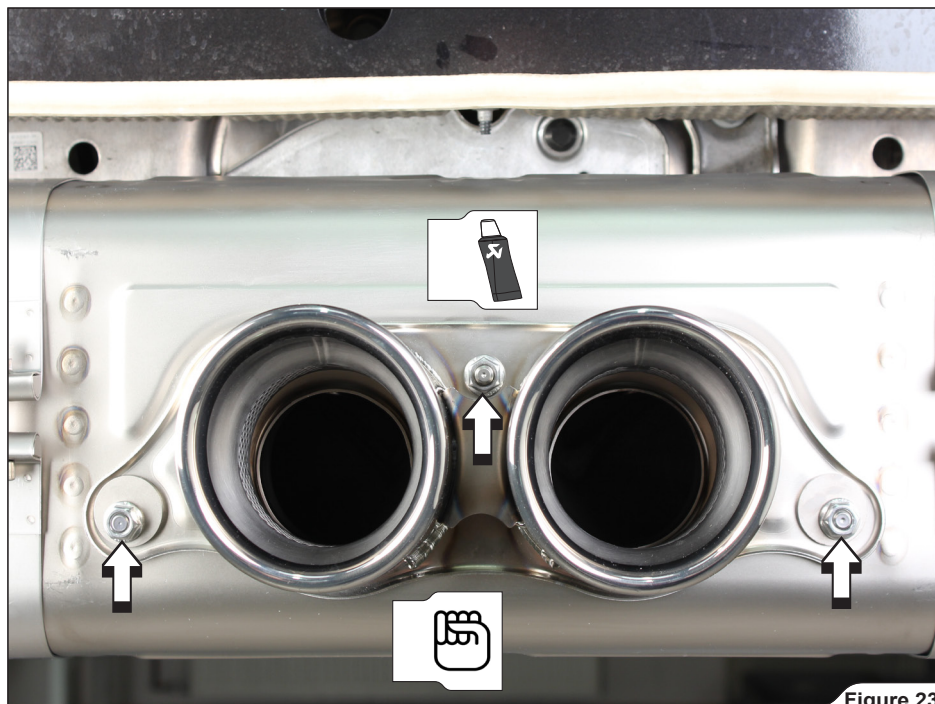

Figure 23
8. Attach Akrapovič tail-pipe onto the muffler's outlet. Correctly assemble an hand tighten nuts and centering washers from Akrapovič installation kit (**Figure 23**).